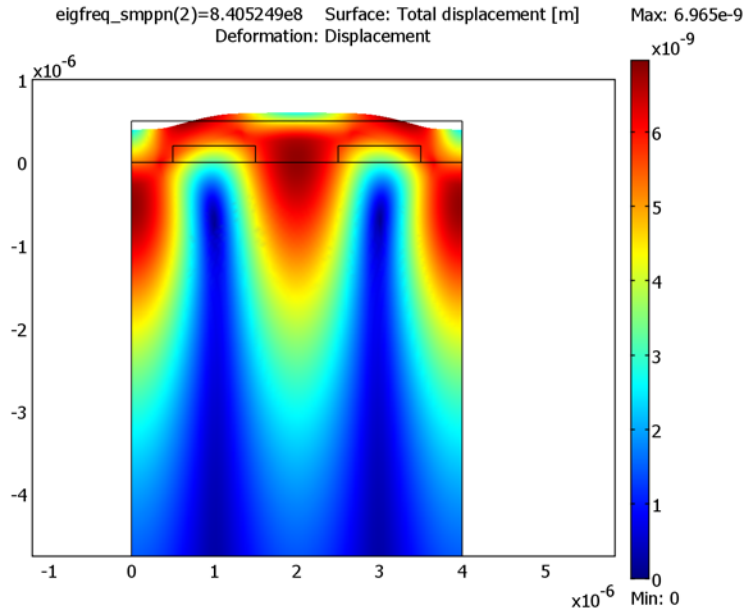

Figure 3-45: Deformations at resonance.
- 5 On the **General** page, select the 841 MHz eigenfrequency and click **Apply** to see the deformations at resonance. This plot should look like Figure 3-45.